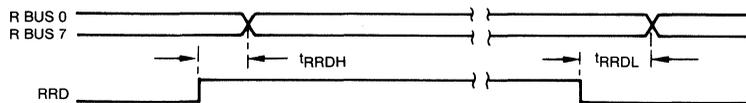

FIGURE 1. STANDARD MODE 0 TIMING DIAGRAM
**DYNAMIC ELECTRICAL CHARACTERISTICS** at  $T_A = -40$  to  $+85^\circ\text{C}$ ,  $V_{DD} \pm 5\%$ ,  $t_r, t_f = 20$  ns,  $V_{IH} = 0.7 V_{DD}$ ,  $V_{IL} = 0.3 V_{DD}$ ,  $C_L = 100$  pF, See Fig. 1.